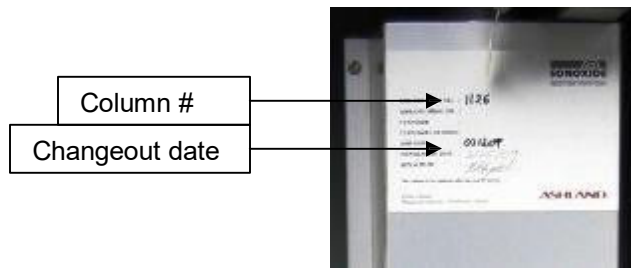

Figure 8
10. Once installed, mark the installation date on the label on the outside of the ultrasound column. This label will serve as a reference for confirming the date of the next scheduled annual replacement. (See Figure 8)